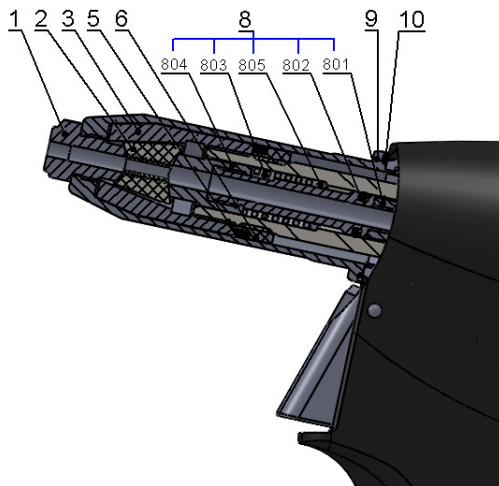
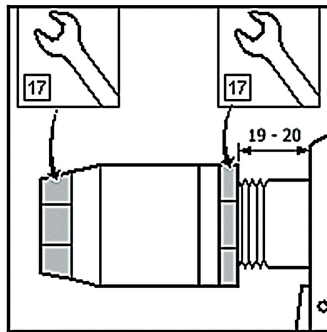

Fig.2
Fig.3
Disconnect the tool from the source of compressed air, unscrew the front nozzle /fig.2 - pos.9/ by means of a spanner no. 23, set the spanner no.17(15) onto the clamping sleeve /fig.2 - pos.3/, set the spanner no. 17 on the backnut /fig.2 - pos.6/ and loosen. Unscrew the clamping sleeve, replace the jaws /fig.2 - pos.2/ and conduit-suction complet /fig.2 - pos.8/. All used threads are clockwise. Clean the dismantled parts thoroughly and check them visually, especially the following:
- 1) Jaws /fig.2 – pos.2/ - if worn or damaged, replace it, if dirty, clean it with a wire brush.
- 2) Nose-piece /fig.2 – pos.1/ - for wear of functional surfaces of the taper.
- 3) Conduit-suction complet /fig.2 - pos.8/ - inspect parts of the assembly, jaw pusher /fig.2 - pos.804/, spring /fig.2 - pos.803/, washer of spring /fig.2 - pos.803/, O - ring /fig.2 - pos.802/ and conduit-suction /fig.2 - pos.801/ - if damaged or worn, replace it with a new one.
- 4) Front nozzle /fig.2 - pos.9/ - check for damage of the internal surface ($\varnothing 20$) .
- 5) Scraper ring /fig.2 - pos.5/ - if damaged or worn, replace it with a new one.
Mount the parts (see par. disassembly) in a reverse order. On the outer surface of the jaws /fig.2 – pos.2/ apply a drop of lubricating oil (we recommend hydraulic oil HYSPIN AWHM 32 CASTROL), apply thin layer of plastic lubricant MOGUL LV 2-3 to the conduit-suction complet /fig.2 – pos.8/. Basic set-up of the jaws is performed as in fig.3.